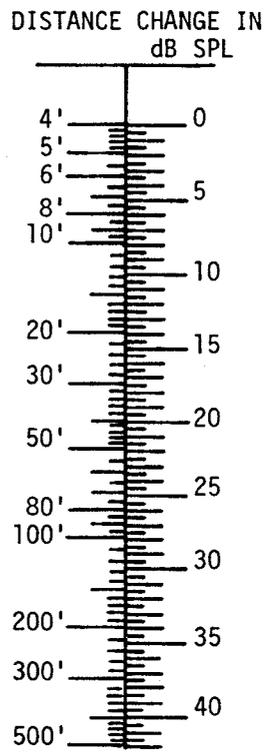

FIGURE 5 – Level Variation with Distance
**Double Distance Rule Gets You.** You might face a situation where the people in the front row are being blasted right out of their seats while the people in the rear are hardly able to hear. This is because sound heard directly decreases as you move away from a sound source (your speaker system). In a non-reverberant (non-reflecting) environment, such as outdoors, sound pressure level from a simple source will be cut in half (drop 6 dB) every time the distance from the speaker is doubled. This is called the "inverse square law." Figure 5 shows the dB losses to be expected as distance from the speaker is decreased from the four feet used in E-V SPL specifications.